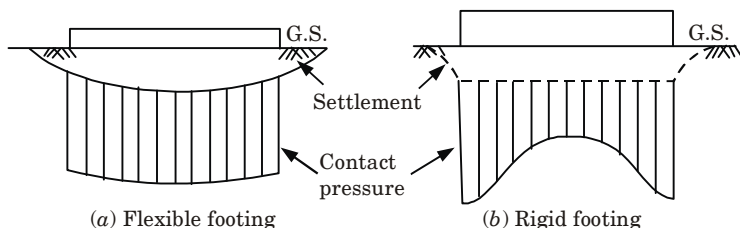

Fig. 3.17.1. Contact pressure on saturated clay.
- i. Fig. 3.17.1 shows the qualitative contact pressure distribution under flexible and rigid footings resting on a saturated clay and subjected to a uniformly distributed load q .